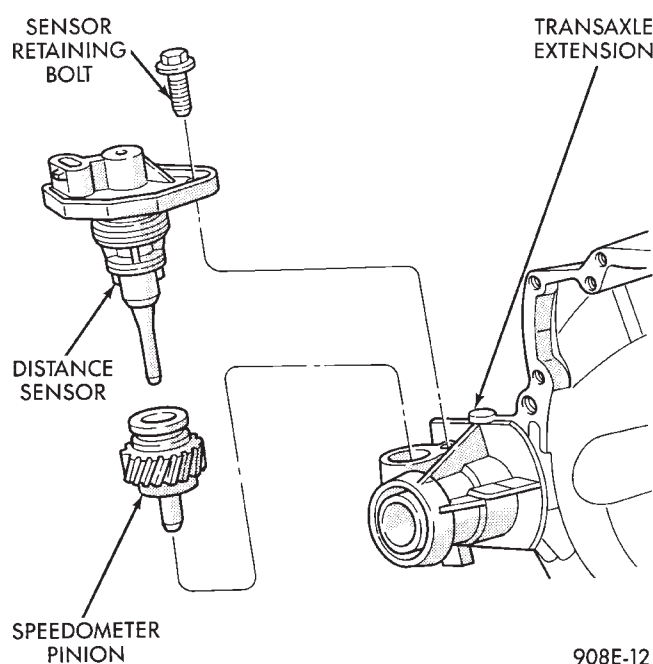

Fig. 31 Distance Sensor and Speedometer Pinion
- (2) Remove sensor retaining bolt.
- (3) Pull sensor and pinion gear assembly out of transaxle. If necessary, carefully pry loose with a flat blade screwdriver (Fig. 31).
- (4) Remove pinion gear from sensor.